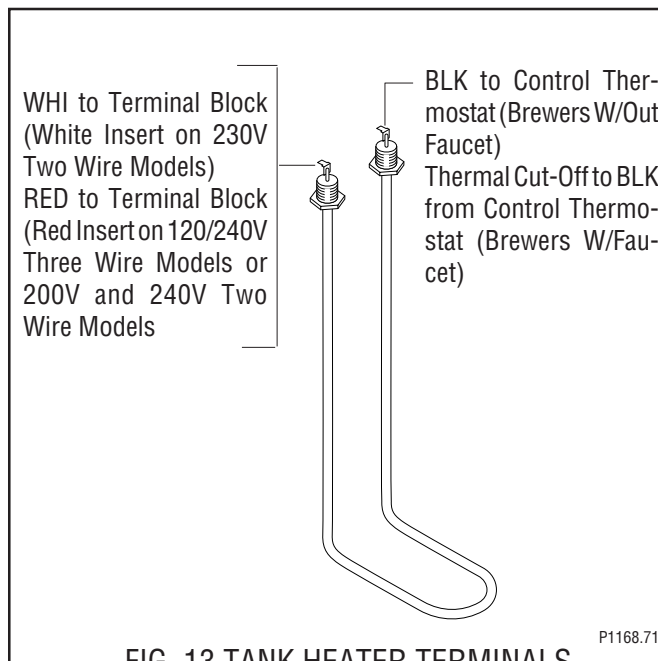

FIG. 13 TANK HEATER TERMINALS
17. Refer to Fig. 13 when reconnecting the tank heater wires.